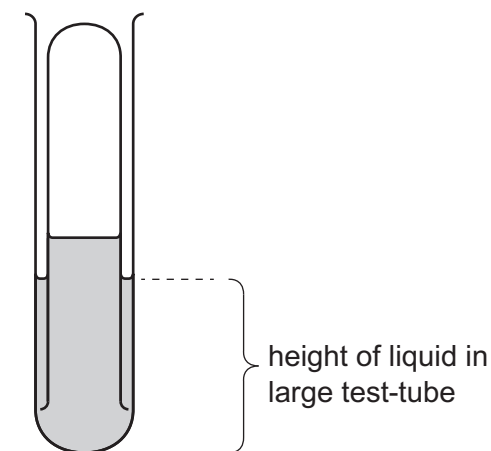

Fig. 1.2
- (iii) After 5 minutes measure the height of the liquid, to the nearest mm, in the large test-tube (boiling tube), as shown in Fig. 1.2.